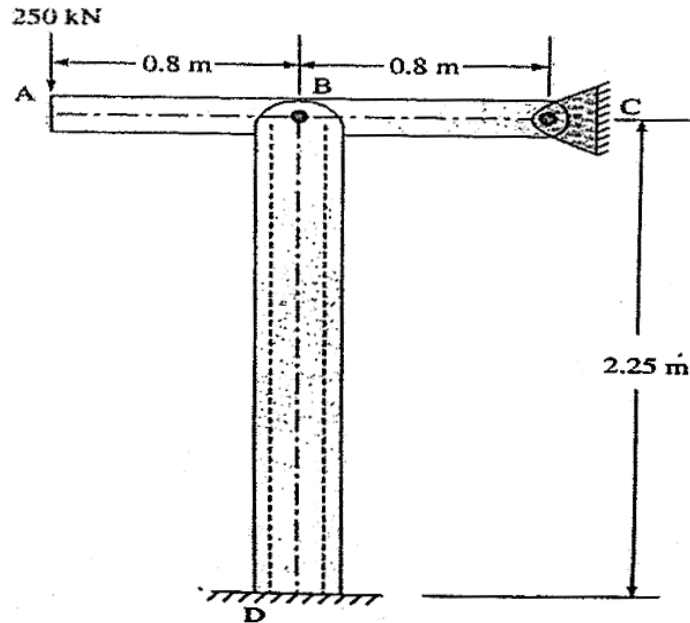

Fig. 5
- (b) A horizontal beam ABC 1.6 m long is pinned to a support at C and supported by a vertical aluminum tube 2.25 m long as shown in Fig. 5. The upper end of the tube is hinged to the beam while its lower end is firmly fixed. The beam carries a load of 250 kN at A. Find the thickness of the tube if its outer diameter is 120 mm. Allow a factor of safety 2.5 with respect to Euler critical load. Take $E = 7.2 \times 10^4 \text{ N/mm}^2$.